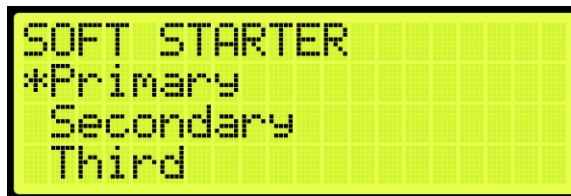

Figure 310: SOFT STARTER Menu – Primary
- From the SOFT STARTER menu, scroll and select Primary (See Figure 310).
3. From the SOFT STARTER menu, scroll and select Primary (See Figure 310).